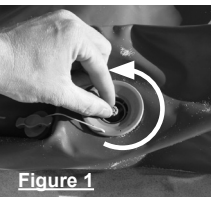

Figure 1
- 2) Once in the setup/ launch position, unroll and place the Revolution™ on the ground or sand near the water's edge, and locate the valve. Remove valve cover and push valve plunger in. Turn the plunger to the left to lock into open position as shown in Fig. 1.